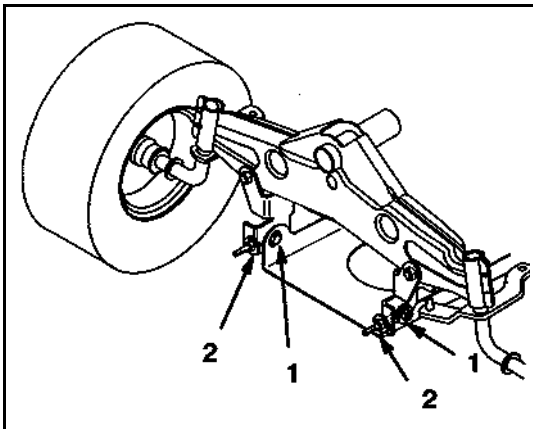

Figure 47 XL44pit3.TIF
- To adjust the front-to-rear pitch, loosen the front mounting plate bolts slightly (Figure 47).